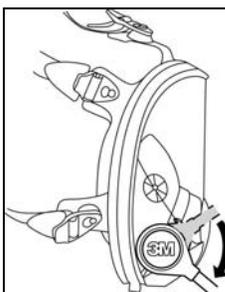

Fig. 8
2. Twist each branch of breathing tube clockwise a quarter turn until it is firmly seated in the bayonet and cannot be turned further (Fig. 8 and 9). Do not forcibly overturn as the bayonet could be damaged. 3M SA-1500/SA-2500 shown.